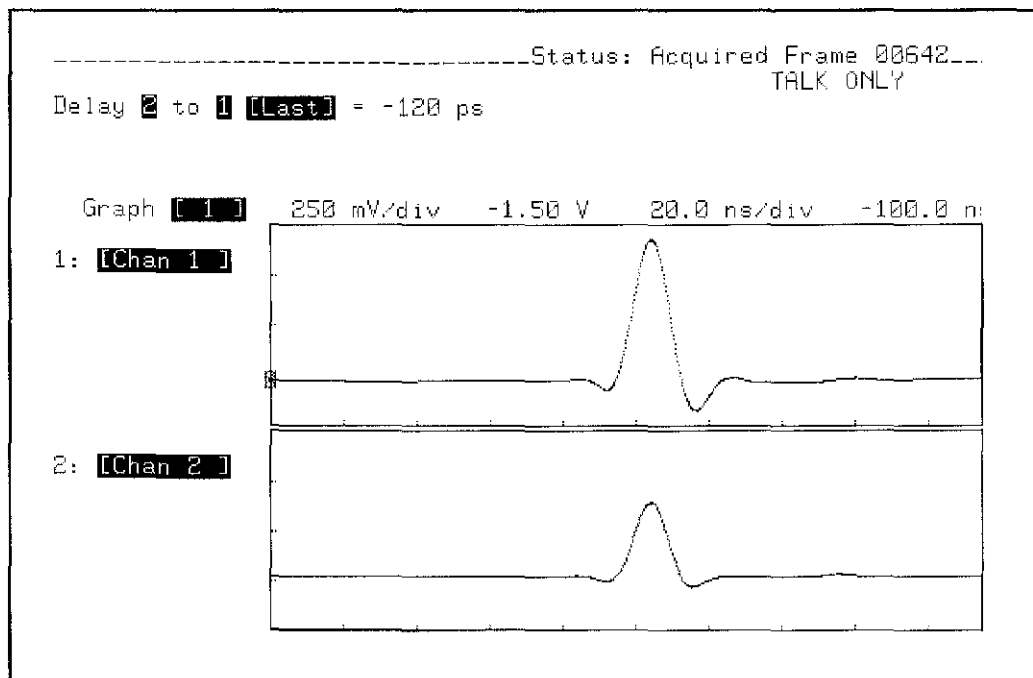

Figure 4-17. A8TP3 to A8TP2 Delay Waveform
10. Move HP 54201D Input 2 probe from A8TP1 to A8TP3. The display should appear similar to figure 4-17. Adjust A8R28 until DELAY measurement from 2 to 1 is approximately zero seconds ( $\pm 1$  ns).